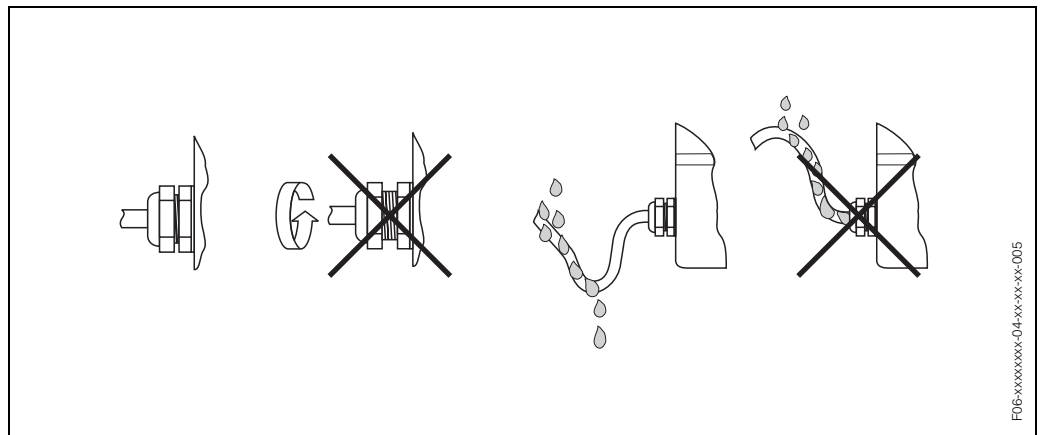

Fig. 41: Installation instructions, cable entries
- Firmly tighten the cable entries (Fig. 41).
- The cables must loop down before they enter the cable entries ("water trap", Fig. 41). This arrangement prevents moisture penetrating the entry. Always install the measuring device in such a way that the cable entries do not point up.